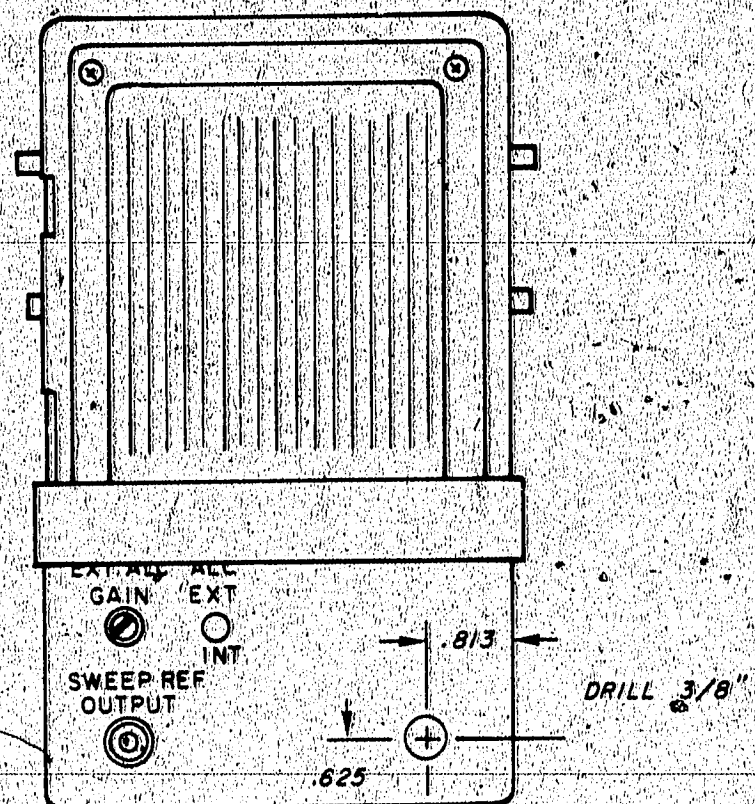

Figure 2. 8693B Shunt Modulator Installation. Rear View of RF Unit.
4. Drill a 3/8" hole in the rear panel as shown in Figure 2.